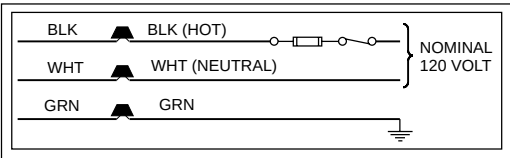

FIGURE 9: Line Wiring Connections
3. The furnace's control system requires correct polarity of the power supply and a proper ground connection. Refer to Figure 9.
Both furnaces must be identical models in both heating capacity and CFM capacity. Both furnaces must be operated on the same motor speed tap. See typical application, Figure 9.